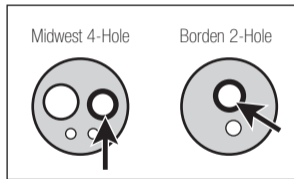

Fig. 10
- 3) Insert the Spray Nozzle into the Drive Air Port of the handpiece. (Fig.10) Hold the handpiece and spray for approximately 2-3 seconds. Apply lubricant until it expels from the handpiece head for at least 2 seconds.
- 2) Apply 1-2 drops of lubrication oil into the Drive Air Port shown in the Fig.10.